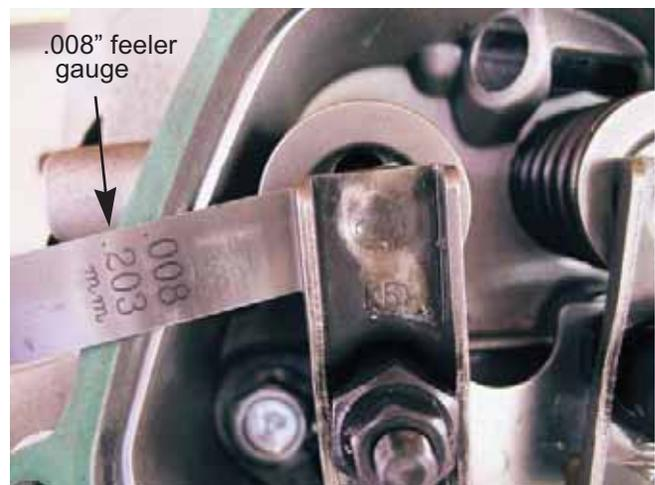

Figure 1.15
10. Exhaust valve lash (muffler side) should be 0.006-0.008” (0.15 - 0.20mm). See Figure 1.15.
11. Use a 10mm wrench to loosen the jam nut, and a 14mm wrench to adjust the rocker arm fulcrum nut. See Figure 1.15.